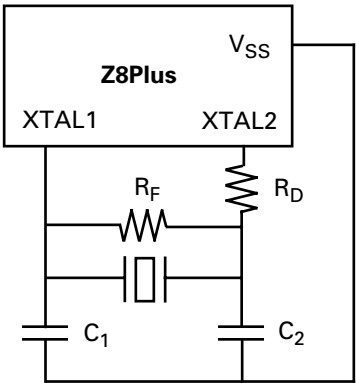
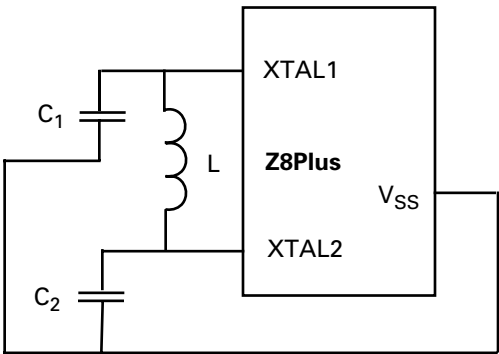
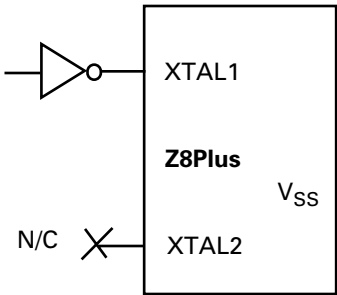

Figure 16. Crystal/Ceramic Resonator Oscillator
Figure 17. LC Clock
Figure 18. External Clock
Crystals and ceramic resonators (Figure 16) should exhibit the following characteristics to ensure proper oscillation:
Depending on the operation frequency, the oscillator may require additional capacitors, C_1 and C_2 , as illustrated in Figure 16 and Figure 17. The capacitance values are dependent on the manufacturer's crystal specifications.
Figure 16, Figure 17, and Figure 18 recommend that the load capacitor ground trace connect directly to the V_{SS} (GND) pin of the Z8Plus. This requirement assures that no system noise is injected into the Z8Plus clock. This trace should not be shared with any other components except at the V_{SS} pin of the Z8Plus.
The Z8Plus oscillator can use an inductor capacitor oscil-lator (LC) network to generate an XTAL clock (Figure 17).